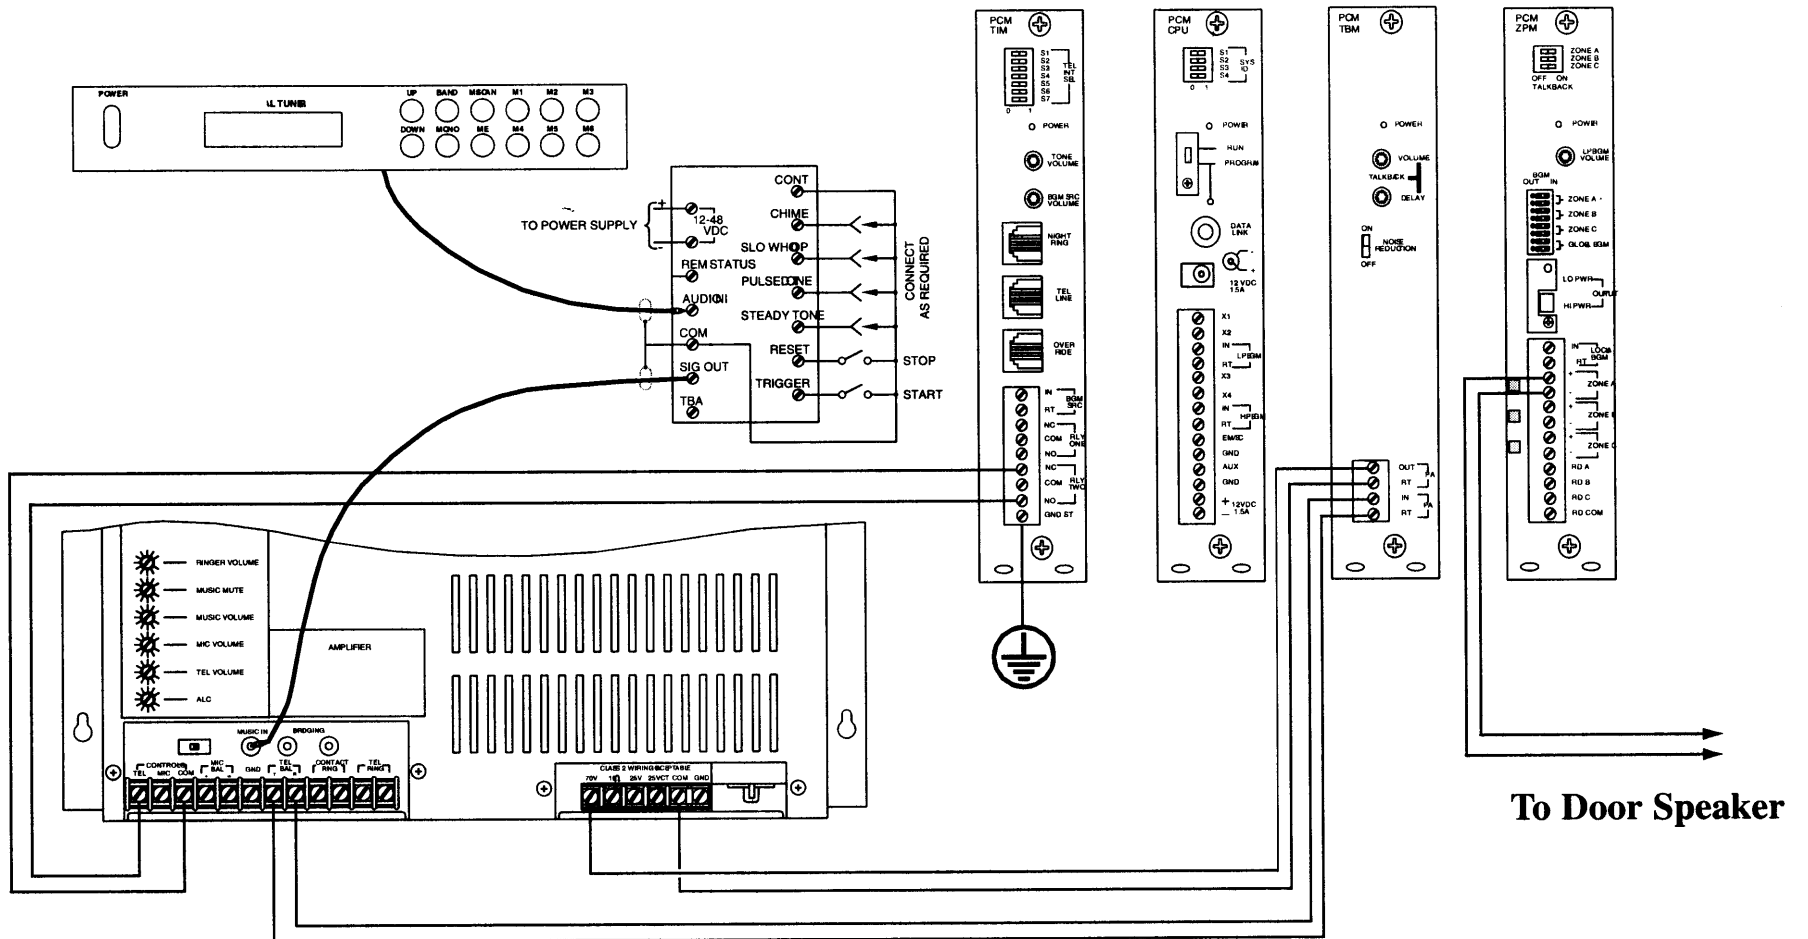

Figure A-7: Typical Connection to Operate a Door Speaker
- \* To Operate Door Speakers (see Figure A-7 on page 58)